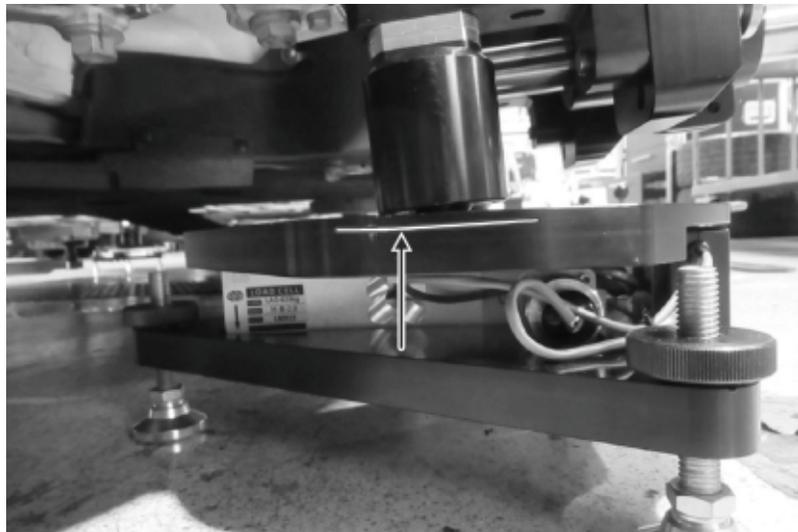

Figure 80
- Measure the driving height as shown in Fig. 80 at the measuring points specified by the repair guides or technical manuals. Note the values for the displayed driving heights on the front and rear axles.